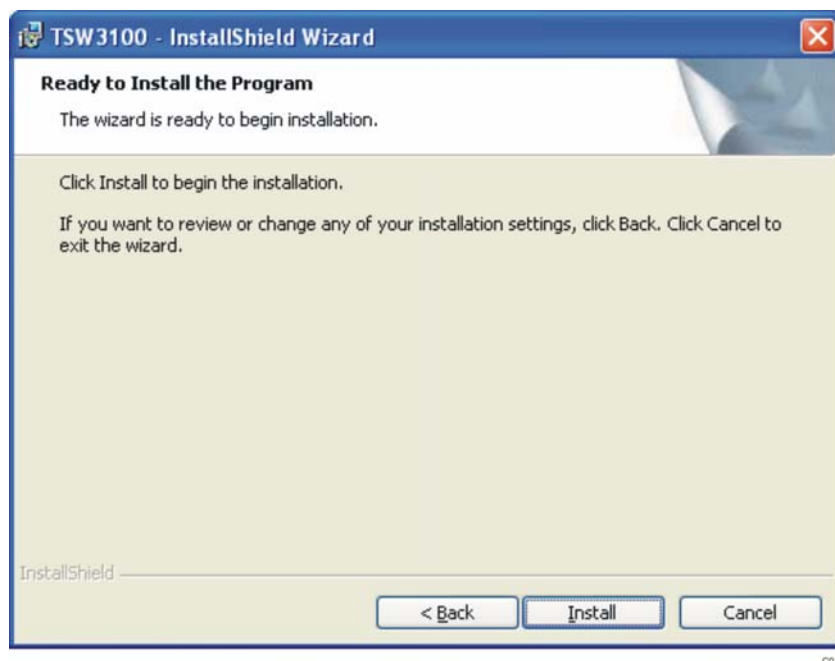

Figure 16. Ready to Install the Program
5. On the Ready to Install the Program (Figure 16) display, click *Install*. The installation takes between one and three minutes to complete.